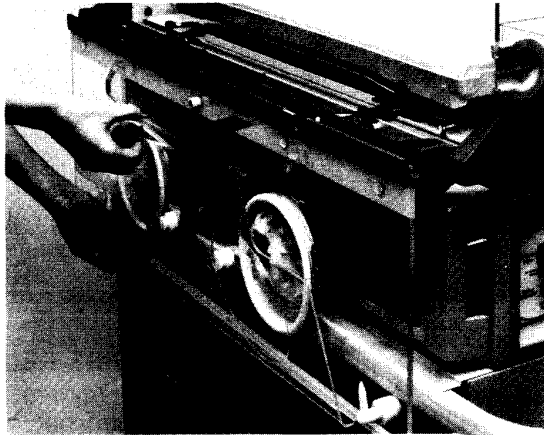

FIGURE 4.3 ACCESS PANEL INNER WALL REMOVAL
- 3.* REMOVE ACCESS PANEL INNER WALL (HEAT SHIELD). Refer to Figure 4.3. With the Access Panel completely open, remove the Inner Wall by simultaneously pulling out at the top and pushing in the downward direction.